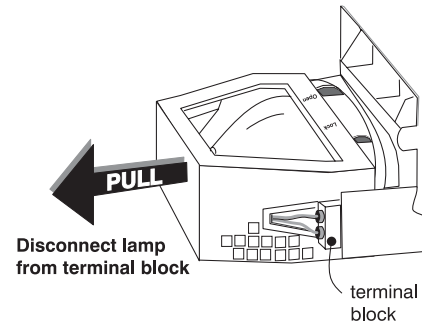

Figure 4.4.
- (b) Firmly, grasp the lamp module and pull straight out. Keep the lamp level when doing this so that it easily disconnects from the terminal block. (Figure 4.4.)